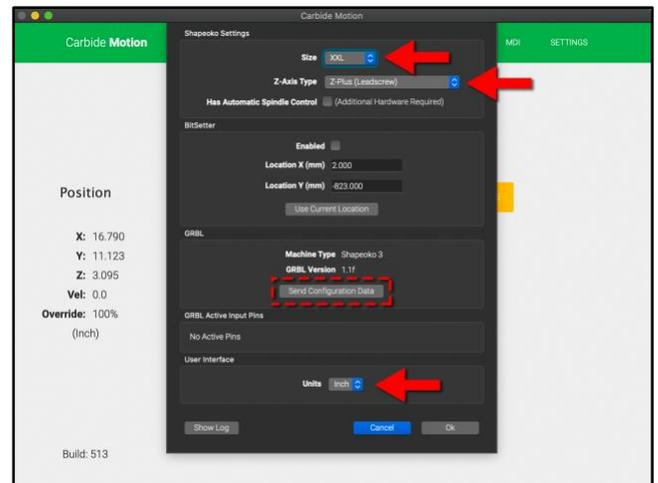

Figure 37
2. Update your machine settings. See *Fig. 37*.